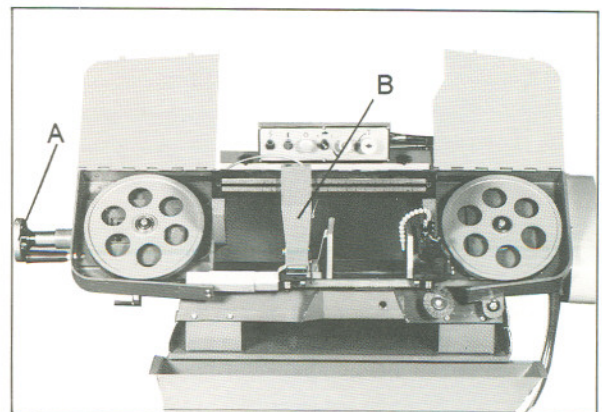

Fig. 7
4. Release blade tension by turning blade tensioning handwheel (A - Fig. 7) counter-clockwise until blade is free.
5. Loosen lock knob and slide left blade guide arm (B) to the right as far as possible.